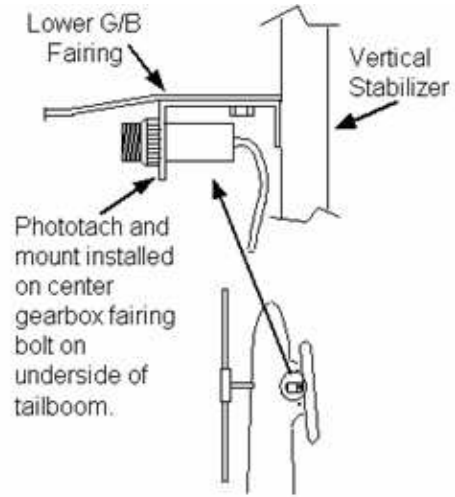

Figure 2
3. Install the Phototach (Item 2) into the Phototach Mount (Item 8) and attach to center gearbox fairing bolt under the tail boom where the lower fairing meets the vertical stabilizer. (Figure 2).